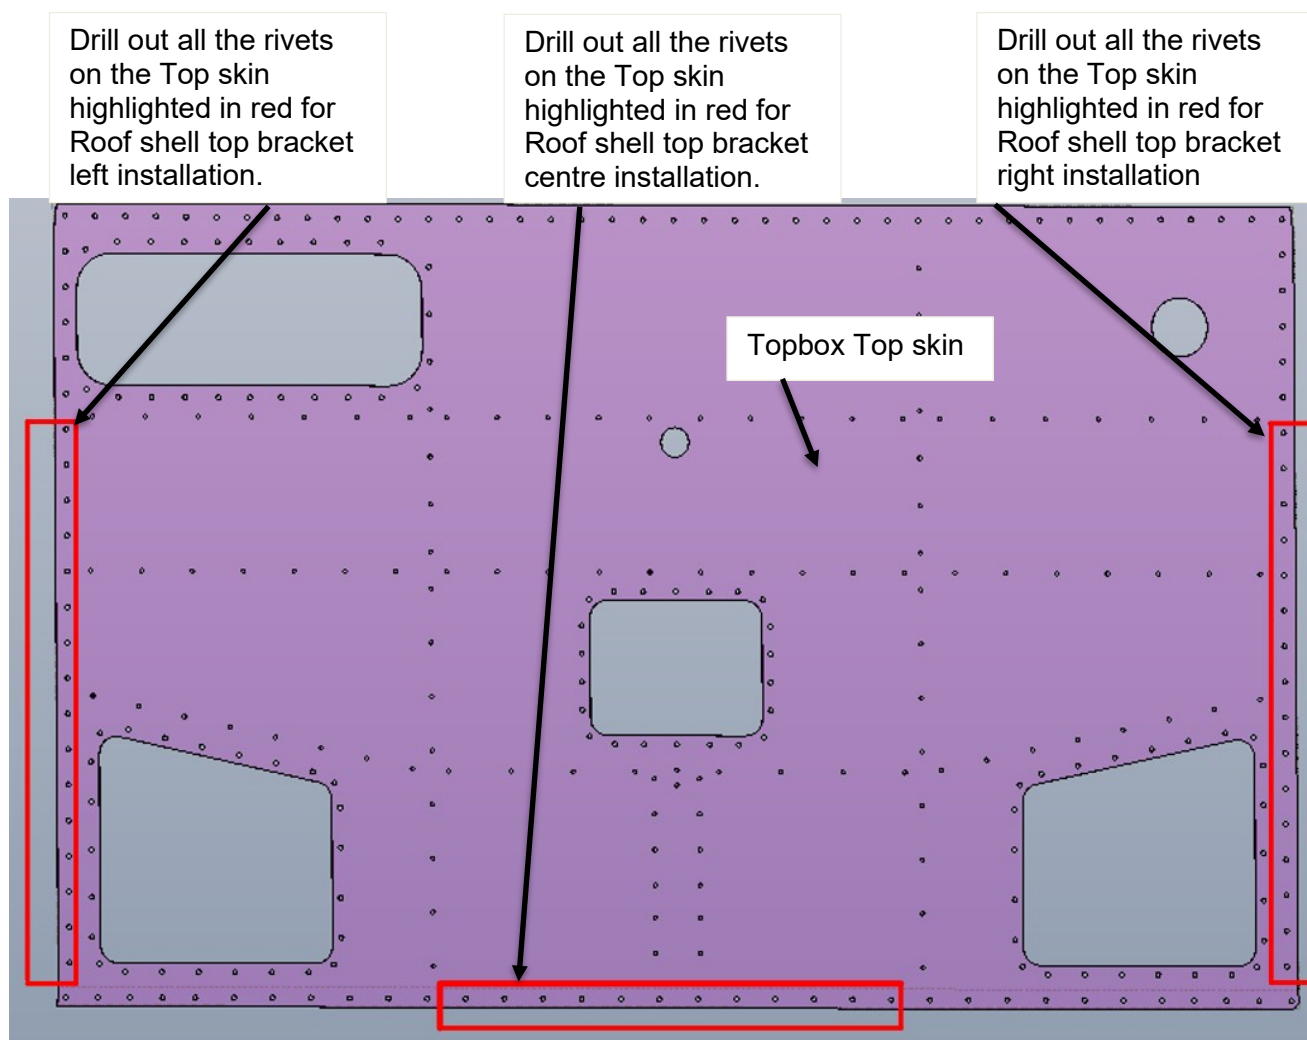

Figure 11: Drill out the rivets on top of the Topbox aluminium skin to install the brackets as shown.
Step 1: Drill out the rivets on top of the aluminium skin on the Topbox to install the brackets as shown in Figure 11.